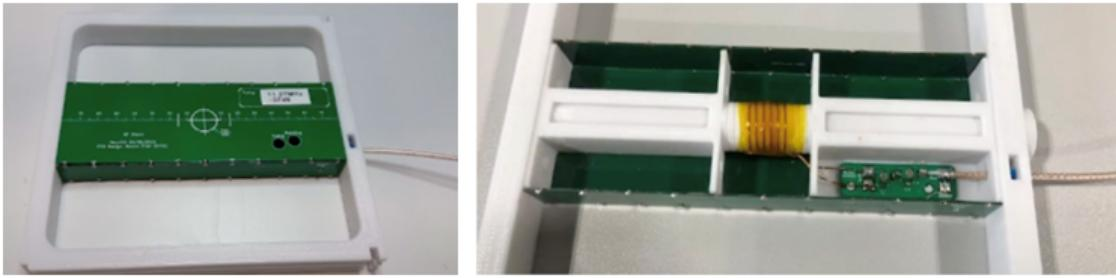

Figure 3: (Left) 4 PCBs encase the RF coil to protect surrounding electronics. (Right) RF coil solenoid inside the RF shield.
RF coil: A radio-frequency (RF) coil encircles the sample bore, serving to transmit the excitation pulse and detect the MR signal through the Faraday detection principle. **The coil is sensitive to a 20 mm FOV along the bore, centered 15 mm above the bottom of the bore hole.** The coil is a simple solenoid built into an electrical resonator with parallel capacitance so it can be tuned to a specific Larmor frequency. The coil is enclosed by an RF shield consisting of 4 printed circuit boards (PCBs) soldered edge-to-edge (Figure 3). The shield acts as a Faraday cage to protect surrounding electronics from RF radiation.